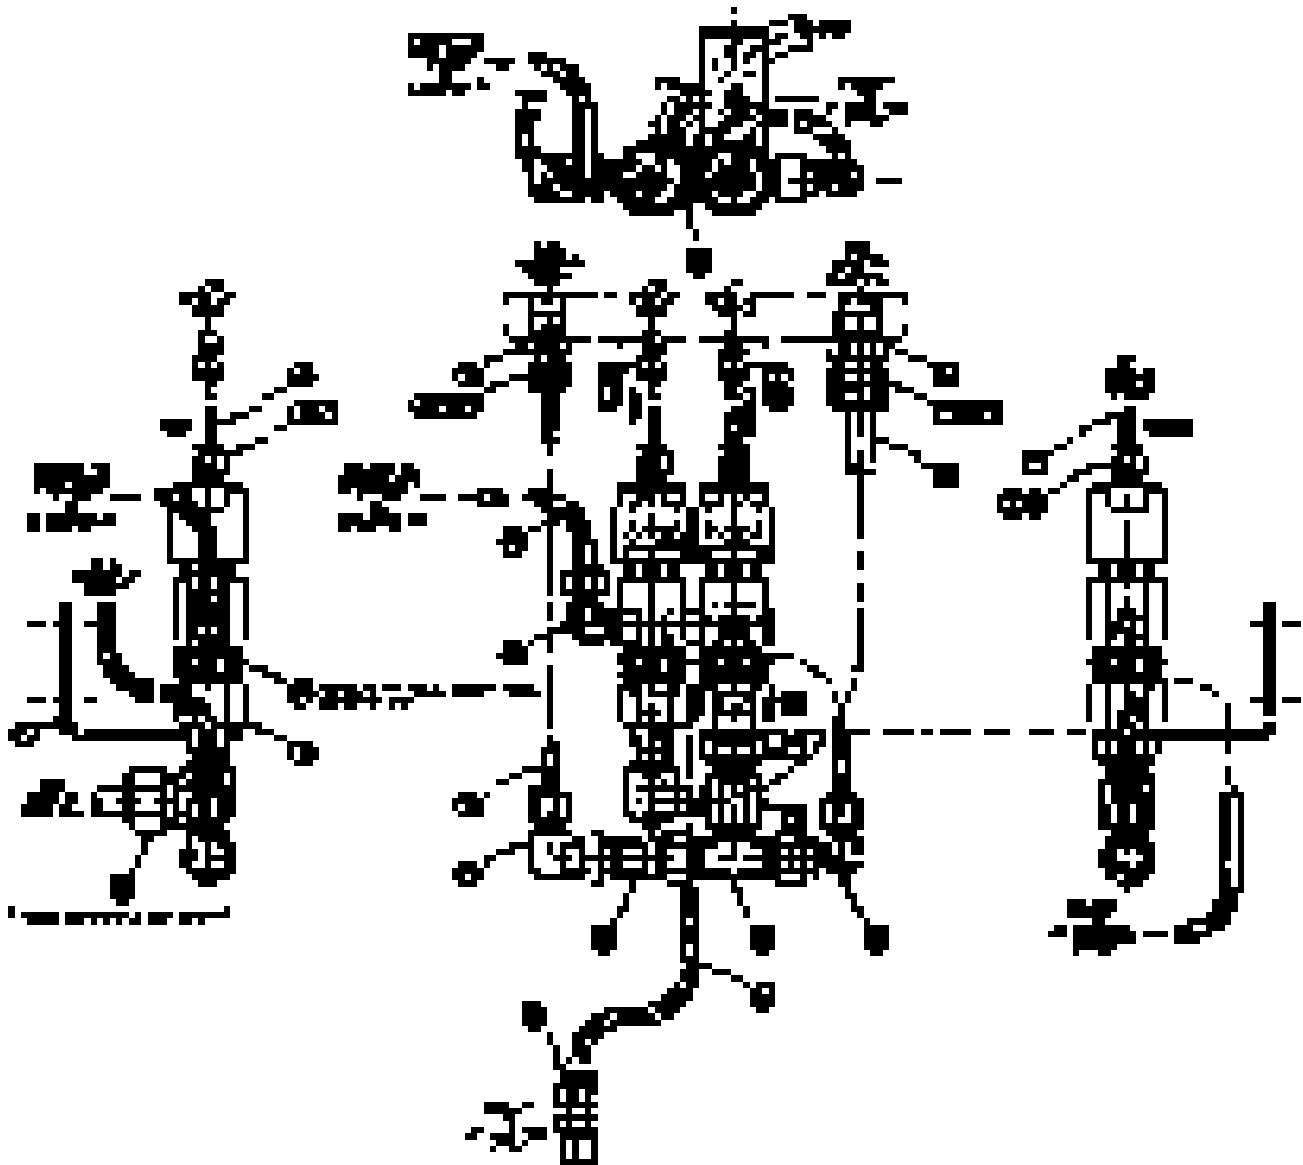

Figure 25: 78722-xx (2) Valve Assembly - Trigger & Dump
78722-xx (2) VALVE ASSEMBLY - TRIGGER & DUMP - PARTS LIST (Figure 25)